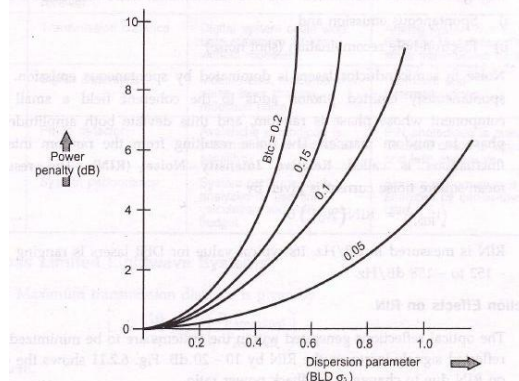

Fig. 6.2.10 Chirp induced power penalty
- Fig. 6.2.10 shows power penalty as a function of dispersion parameter BLD  $\sigma_\lambda$  for several values of bit period (Btc).